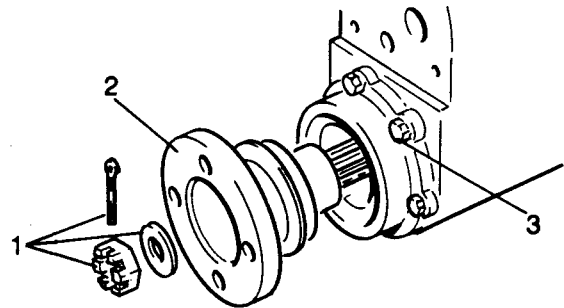

Fig H1.96
- (4) Refer to Fig H1.96. Remove the split pin, washer and castle nut (1) that retains the front output shaft flange.
- (5) Remove the front output shaft flange (2).
- (6) Remove the fixings (3) that retain oil seal housing (4).